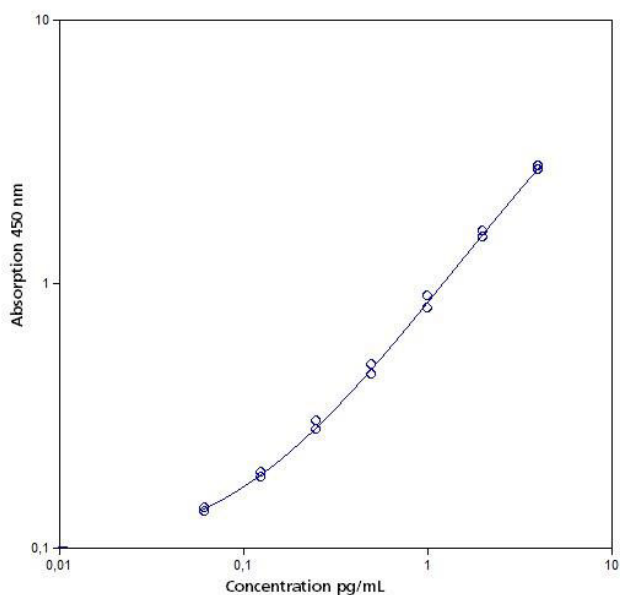

Fig. 8 Representative standard curve for human PD-1 ELISA. Human PD-1 was diluted in serial 2-fold steps in Sample Diluent.
- A representative standard curve is shown in Figure 8.